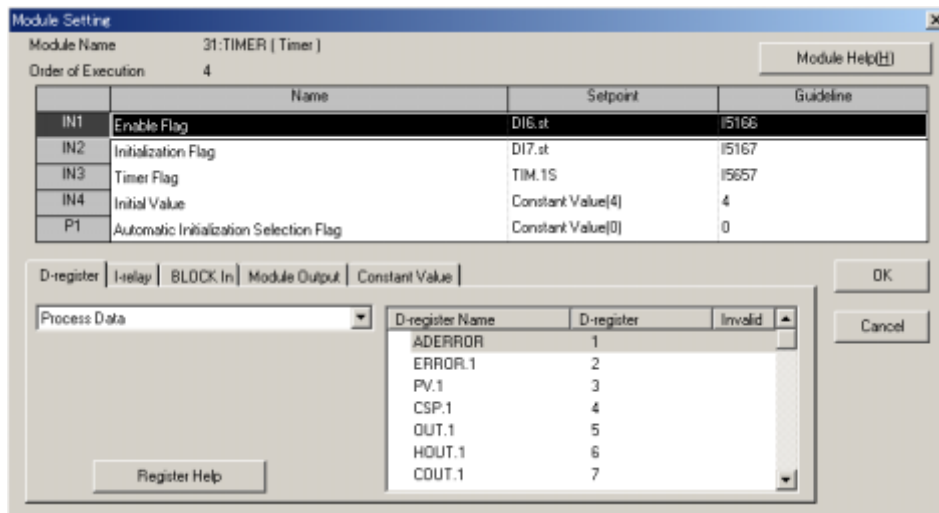

Figure 12.5.19 [Module Setting] Dialog Box
- (2) From the tool menus, choose <Edit [E]>, then <Connection>. The [Module Setting] dialog box (Figure 12.5.19) appears.